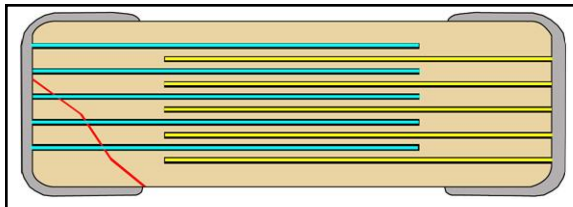

Figure 8. Blue represents (-), Yellow represents (+), flex crack only crosses electrode of like polarity.
- For **mid** capacitance values, KEMET offers the Open Mode solution. The Open Mode device creates a safe zone on both ends of the capacitor (See Figure 8), so that only the innermost portion of the capacitor is active area. Any board flex crack that occurs (remember, this crack always starts within the end termination) can only cross electrodes of like polarity; thus eliminating the possibility of a short-circuit failure from a board flex crack. As with the FE-CAP, active area has been sacrificed in order to create the safe zones on both ends of the chip; thus, the Open Mode solution is only applicable for mid capacitance values. To order this device, place an “F” for “Fail Open” in the 6th digit of the KEMET part number. Open Mode can be ordered with Flexible Termination by changing the 6th digit of the KEMET Part Number to a “D”.